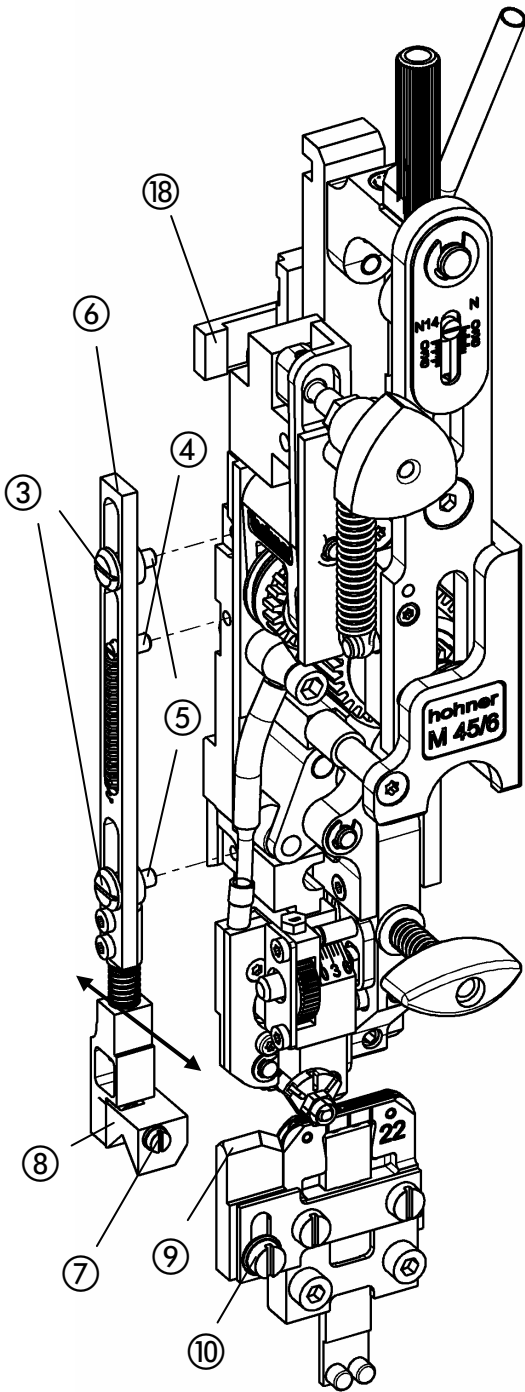
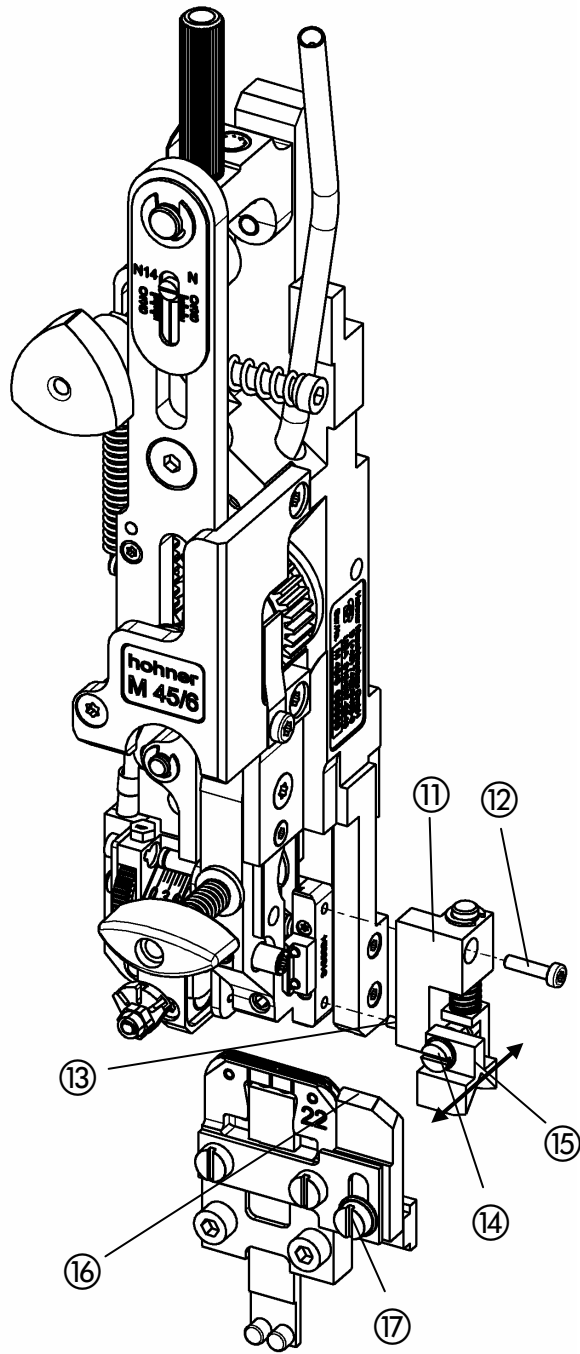

Fig. 16
Fig. 17
- Fig. 17 -
- In order to install the holding down device ⑪, insert the guide pin into the borehole on the bender and tighten the fastening screw ⑫.
- The centering prism ⑮ can be moved back and forth by turning the adjusting screw ⑭.
- Move the centering prism ⑮ backward or forward until it is precisely aligned with the prism of the slider ⑯.
- Adjust the height of the prism ⑮ (approx. 0.5 mm above the clincher box) by moving it in the slot and tighten the fastening screw ⑰.
- Fig. 16 -
- In order to mount the holding down device, screw the spring bolt ④ into the borehole on the stitching head.
- Insert extension spring into spring bolt ④ and lifting rod ⑥.
- Fix holding down device by screwing fastening screw ③ to lifting rod ⑥ and flange bushings ⑤ on the stitching head.
- Installing the carrier ⑱ in the main slide bar - see SPARE PARTS LIST page E27.
- The centering prism ⑧ can be moved back and forth by turning the adjusting screw ⑦.
- Move the centering prism ⑧ backward or forward until it is precisely aligned with the prism of the slider ⑨.
- Adjust the height of the prism ⑧ (approx. 0.5 mm above the clincher box) by moving it in the slot and tighten the fastening screws ⑩.